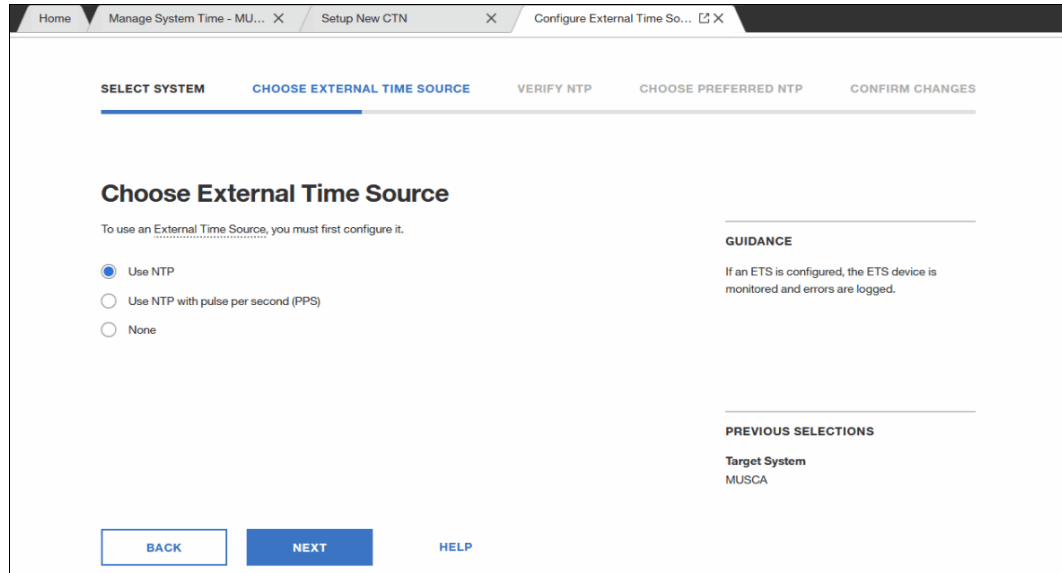

Figure 8-46 Choose External Time Source window
- The Choose External Time Source window opens. We select **Use NTP**. Click **NEXT** to continue (see Figure 8-46).